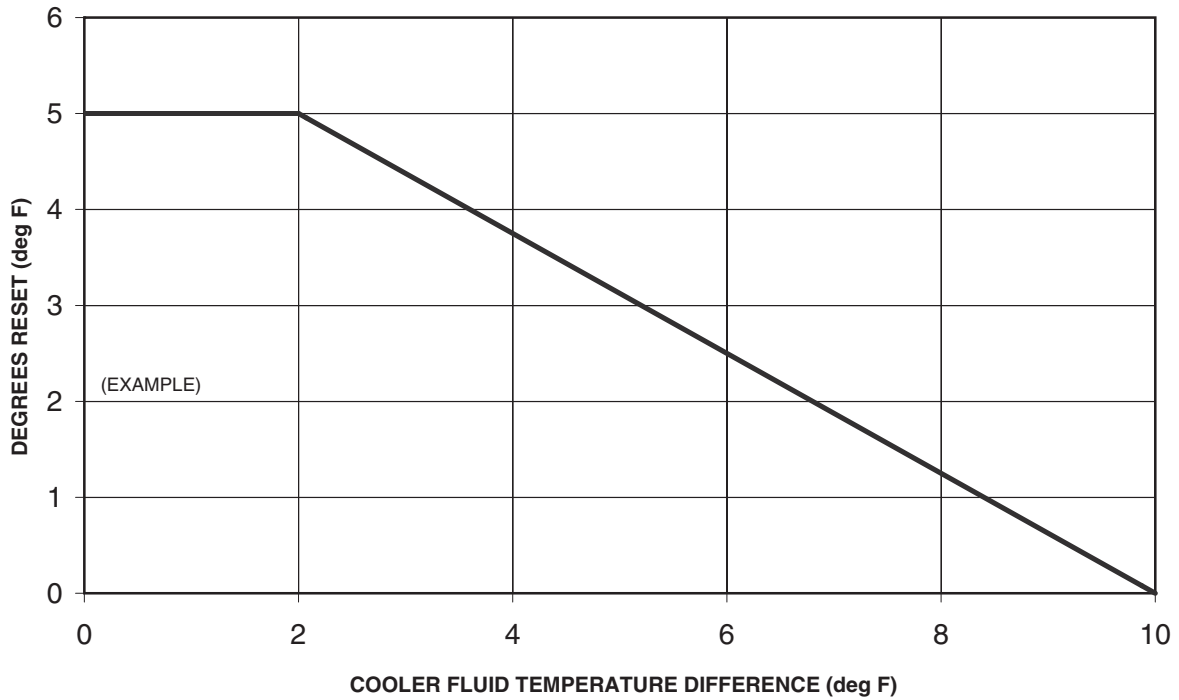

Fig. 15 — Water Temperature Difference Reset
Under normal operation, the chiller will maintain a constant leaving fluid temperature approximately equal to the chilled fluid set point. As the cooler load varies, the cooler fluid temperature difference will change in proportion to the load as shown in Fig. 15. Usually the chiller size and leaving-fluid temperature set point are selected based on a full-load condition. At part load, the fluid temperature set point may be lower than required. If the leaving fluid temperature were allowed to increase at part load, the efficiency of the machine would increase.
5.0°F (2.8°C) when the ΔT is 2°F (1.1°C) and 0°F (0°C) reset when the ΔT is 10°F. The variable **CRT1** should be set to the cooler temperature difference (ΔT) where no chilled water temperature reset should occur. The variable **CRT2** should be set to the cooler temperature difference where the maximum chilled water temperature reset should occur. The variable **DGRC** should be set to the maximum amount of reset desired. To verify that reset is functioning correctly proceed to **Run Status**→**VIEW**, and subtract the active set point (**SETP**) from the control point (**CTPT**) to determine the degrees reset. See Fig. 15 and Table 29.